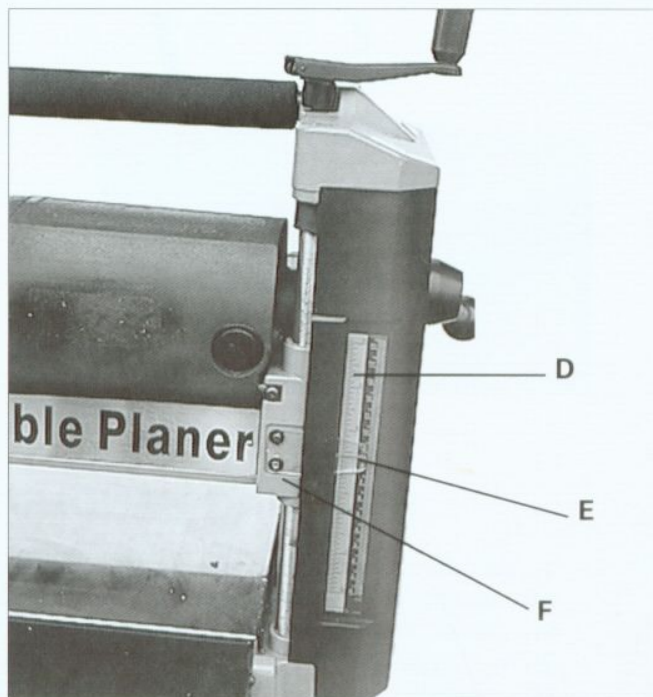

Fig.16
A dual English/Metric scale (D) Fig.16, and pointer (E) is conveniently located on the front of the machine and indicates the thickness of the finished workpiece. Adjustment to the pointer (E) can be made by running a piece of wood through the machine. Measure the thickness of the workpiece and if an adjustment is necessary, loosen two screws (F) and adjust pointer (E) accordingly. Then tighten two screws (F).